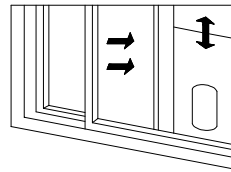

fig.3
- 1) Half open the window and mount the window sealing plate assembly to the window (as shown in Fig. 3 and Fig. 4). Components can be placed in horizontal and vertical direction.